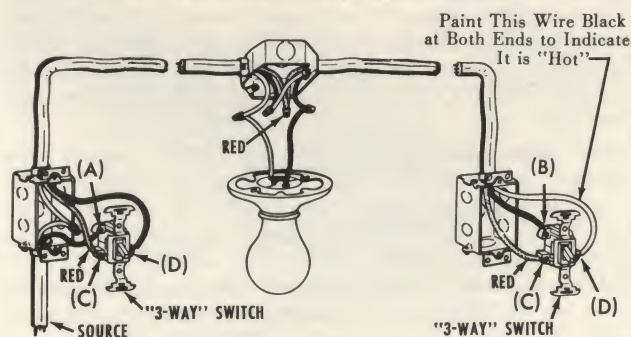

FIG. 55—"3-WAY" SWITCH INSTALLATION
**"3-WAY" SWITCH HOOK-UPS.** To save steps or to help avoid accidents in unlighted areas, it is desirable to have the light controlled from two separate points, such as a hall or basement light from upstairs and downstairs. For this purpose two "3-way" switches are used. Fig. 55 shows how connections are made with 3-wire cable. Run the "neutral" (white) wire from source directly to the light fixture. Connect the black wire from source to the "common" terminal at point "A" of first switch. Note that the common terminals of "3-way" switches are generally at top or side and that they usually have a darker color than the others. At second switch, connect black wire of cable to the common terminal "B"; the other end is connected to black wire of light fixture. Two terminals (C and D), so far, are unused at each switch. Next, join red wires together in light fixture box and connect to terminals "C" on each switch. Connect black wire at "D" of first switch and join to white wire in fixture box which is connected to "D" at second switch. Paint wire black to indicate it is "hot". Two switches and outlet can be hooked up in many possible combinations, depending on where the source wires come in.